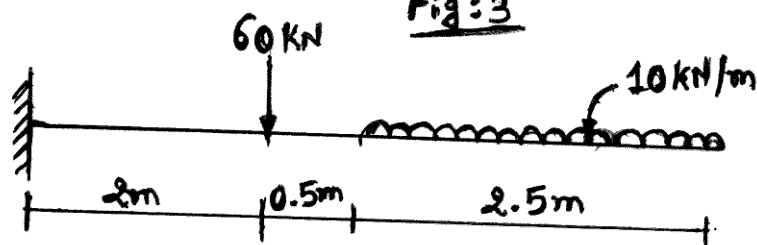

Fig:5
- (b) Draw shear force and bending moment diagrams for the beam shown in Fig:5. **07**